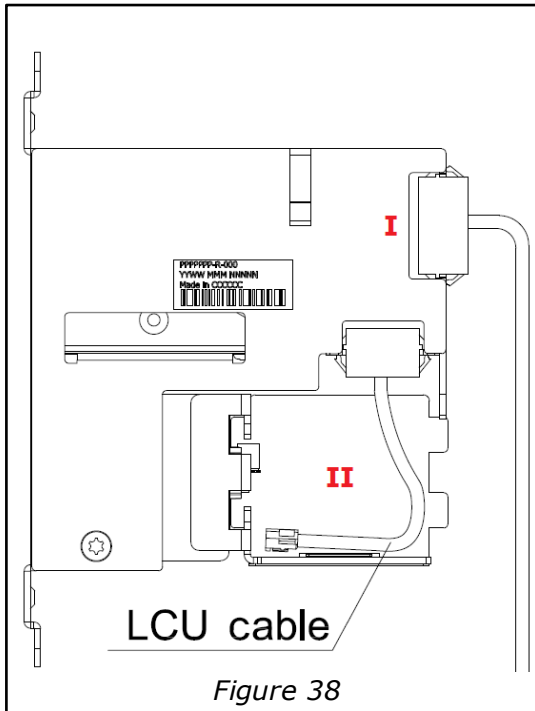

Figure 38
16. Connect the lock case cable to the Essence cassette (I in Figure 38).
Make sure that the LCU cable is well positioned in the space marked with II in Figure 38, to avoid pinching of the cable.